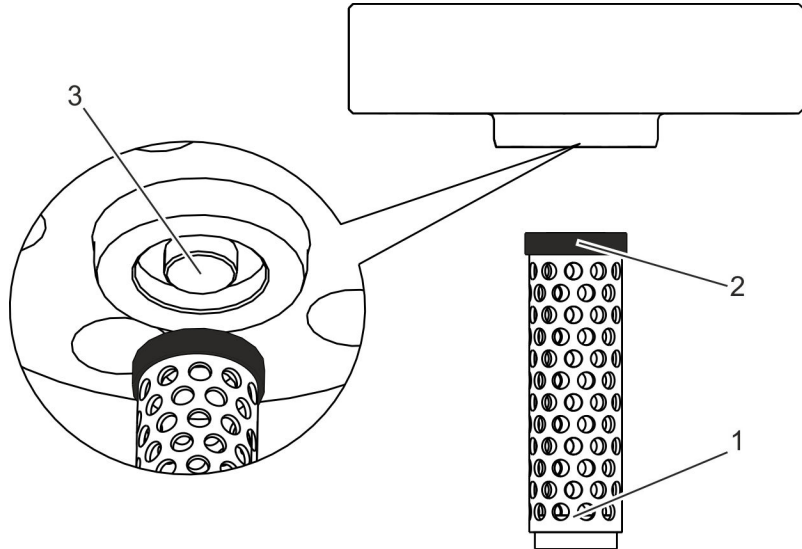

Fig. 7: Screen cylinder
- the screen cylinder (Fig. 7/1) and
- the packing ring (Fig. 7/2).
The screen cylinder is centred in the cover (Fig. 7/3).
To seal the screen cylinder against the cover, a packing ring (Fig. 7/2) is also mounted. This prevents pumping medium from flowing through the body between cover and screen cylinder, without foreign objects being retained.